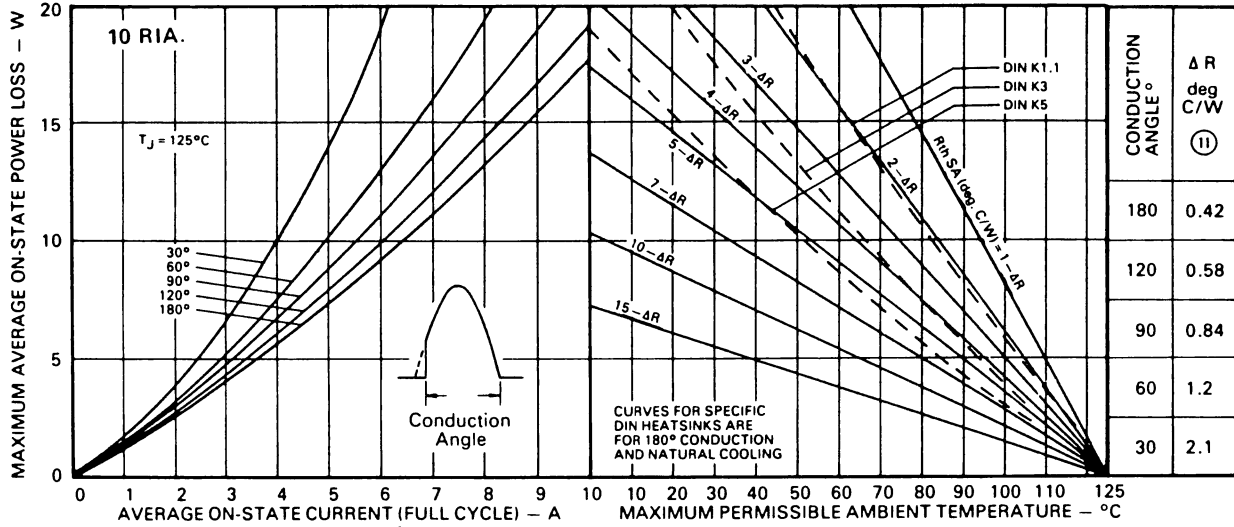

Fig. 1 – Continuous Current Rating Nomogram (Phase Angle Controlled Half-Sinusoidal Waveforms, 50–400 Hz), 10RIA Series.
① To determine required heatsink thermal resistance (R_{thSA}) in deg C/W use value of ΔR appropriate to conduction angle stated in table and substitute in formula $R_{thSA} = X - \Delta R$, e.g. for 10RIA at 180° conduction angle, 7.6A, and 60°C ambient temperature $R_{thSA} = 3 - 0.42 = 2.58$ deg. C/W (figs. 1 & 2)